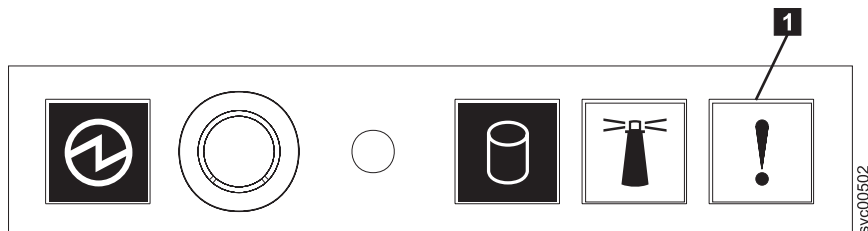

Figure 96. SAN Volume Controller 2145-8A4 operator-information panel
1. Is the Error LED, shown in Figure 96, on the SAN Volume Controller 2145-8A4 operator-information panel on or flashing?